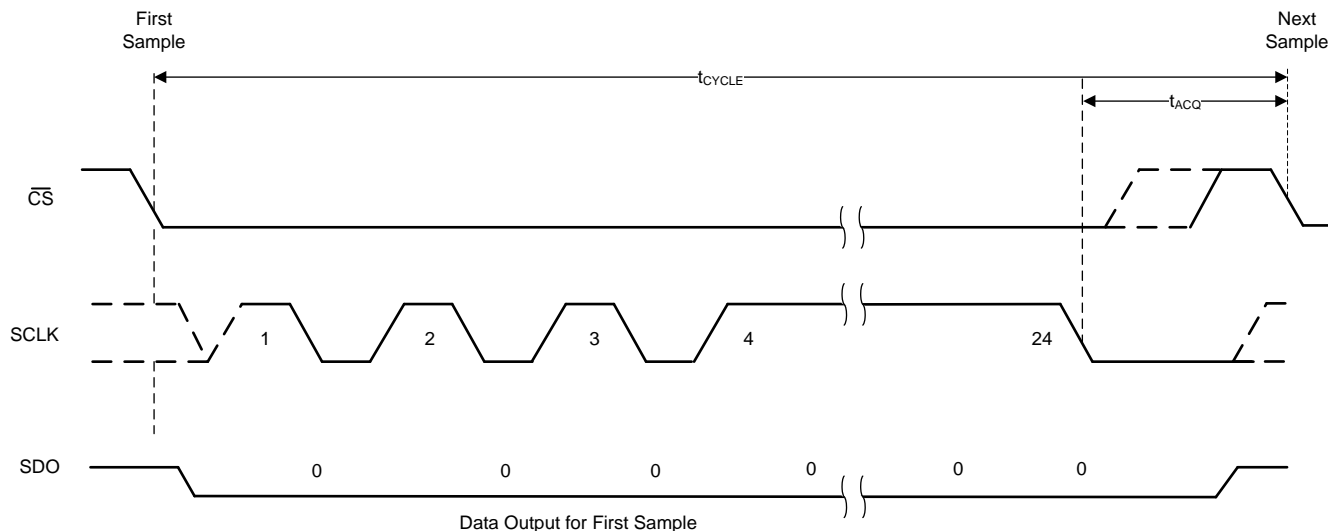

Figure 41. Timing for Offset Calibration on Power-Up
On power-up, the host must provide 24 SCLKs in the first serial transfer to enter the OFFCAL state. The device provides 0's on SDO during offset calibration. For acquisition of the next sample, a minimum time of  $t_{ACQ}$  must be provided. If the host controller enters the OFFCAL state, but pulls the CS pin high before providing 24 SCLKs, then the offset calibration process is aborted and the device enters the ACQ state. Figure 41 and Table 2 provide the timing for offset calibration on power-up.
(1) In addition to the timing specifications of Figure 41 and Table 2, the timing specifications described in Figure 2 and the Timing Requirements table are also applicable for offset calibration on power-up.